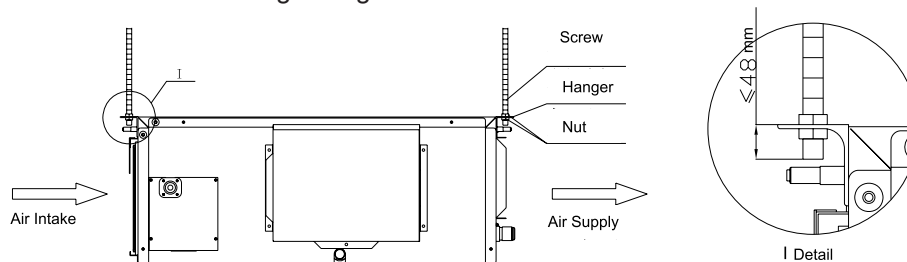

Figure 1-1-5
e. Install the indoor unit at the ceiling as Figure 1-1-5 shows.